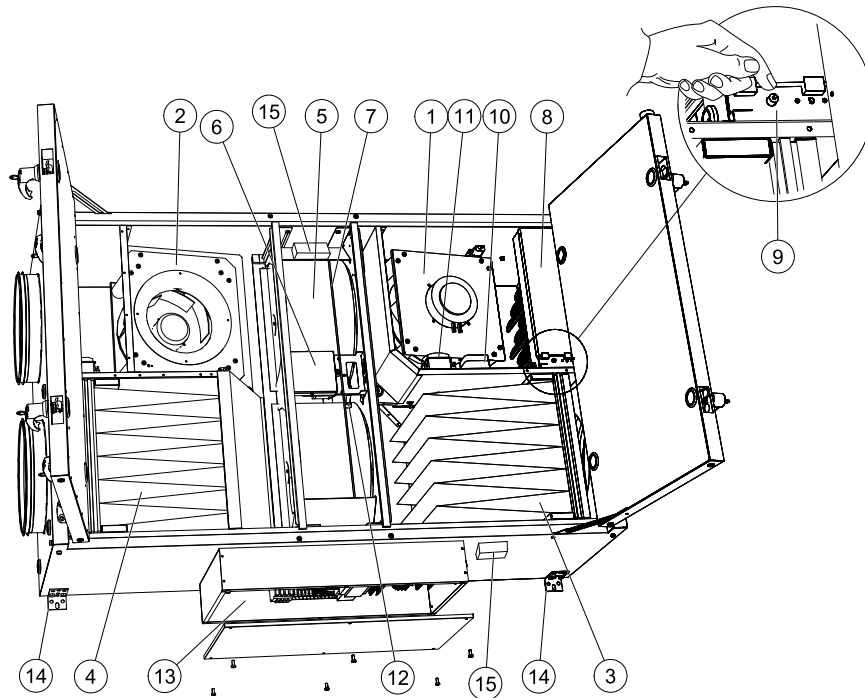
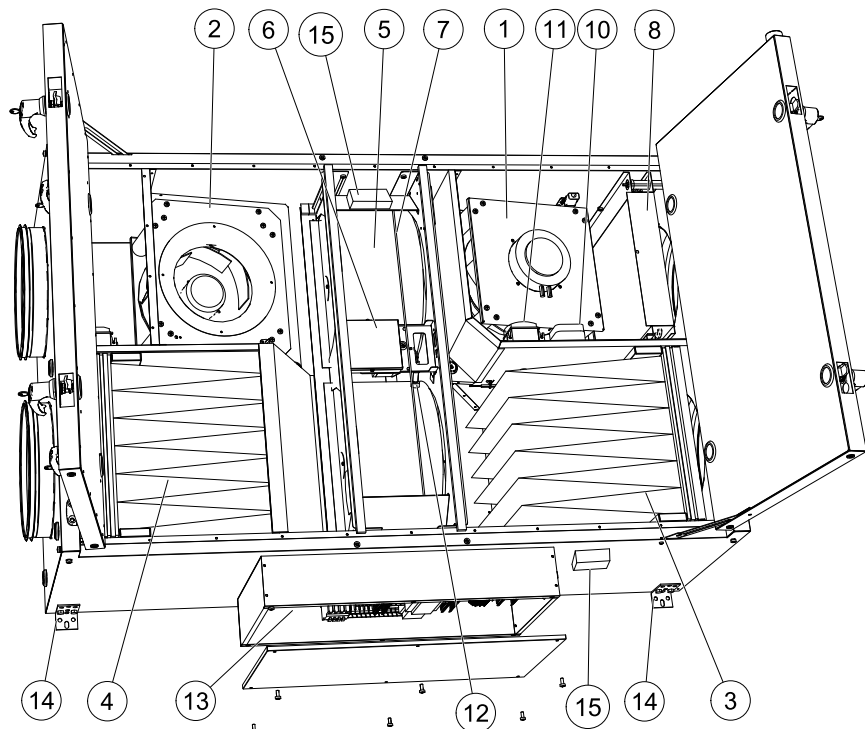

Fig. 1 Components EL units
Fig. 2 Components HW units (in case of installed water heating battery)
2 pressure transmitters maintain the airflow at a constant level by measuring the differential pressure over the inlet cone of the fan impellers (pos.11 figure 1, and figure 2). The pressure transmitters are installed from factory in all units with CAV control. In VAV units the pressure transmitters will not be mounted in the unit from factory. Instead they will be delivered loosely with the unit to be mounted in the supply and extract air ducts, see “Installation instructions” for more information concerning VAV installations.
A pressure guard measures the differential pressure over the supply and extract air filters (pos. 10 figure 1 and figure 2). When the pressure drop reaches the set value an alarm is triggered in the main regulator. The differential pressure can be set between 40 and 300 Pa. The pressure switch is preset from factory to 240 Pa.
The rotor motor drives the exchanger rotor with an infinitely rpm as long as there is a heat demand. The motor is controlled by an analogue 0-10 V control signal (pos.6 figure 1 and figure 2).
A sensor registers the rotation of the heat exchanger rotor. It's connected to the main regulator which gives an alarm if the rotor stops while there is a heat demand (pos. 12 figure 1 and figure 2).
In units with built in electrical heater the heating rods are located after the supply air fan in the airflow direction. The material is stainless steel. The electrical heating battery has both automatic and manual overheating protection. The manual overheat protection is reset by pushing the red button on top of the electrical heater frame (pos. 9 figure 1). The power demand of the electric heating coil is controlled by the main regulator, which controls the heat steplessly by a TTC triac control according to the desired supply/extract or room air temperature that is set in the control panel.